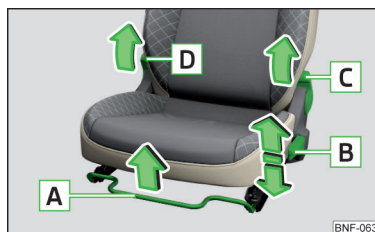

Fig. 52
- » Pull lever **D** » Fig. 52 and fold the seat backrest forwards.